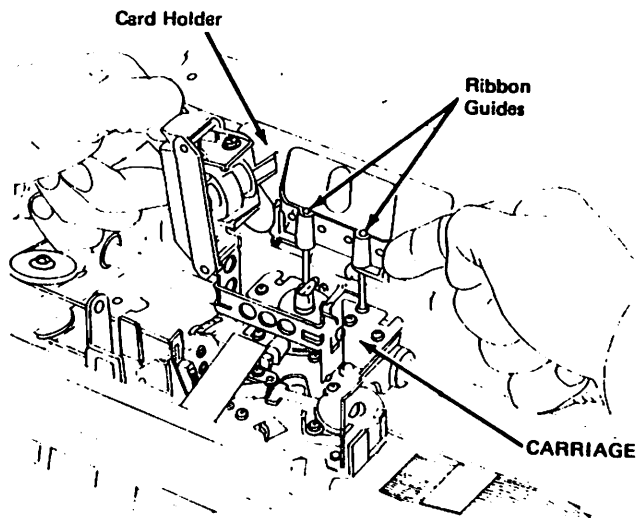

Figure 42 Removing the cardholder
4. Push the plastic tabs at the bottom of the cardholder toward the center and remove the cardholder by sliding it upward and off the ribbon guides (Figure 42).